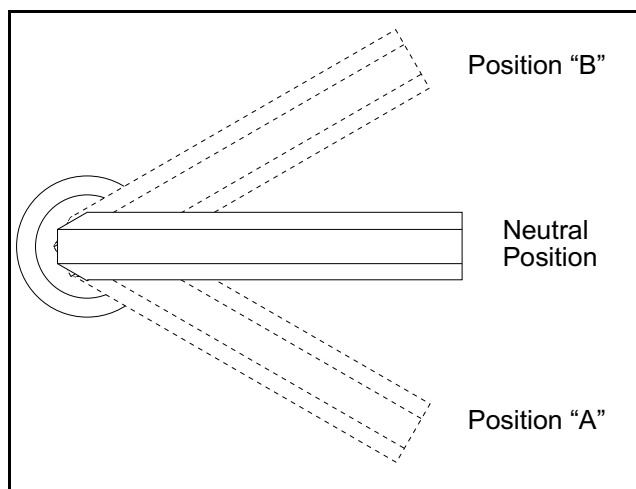

Figure 5 - 10 Pump Neutral Position
- 8) Disconnect the Electrical Displacement Control at the pump controller. (Figure 5 - 11)